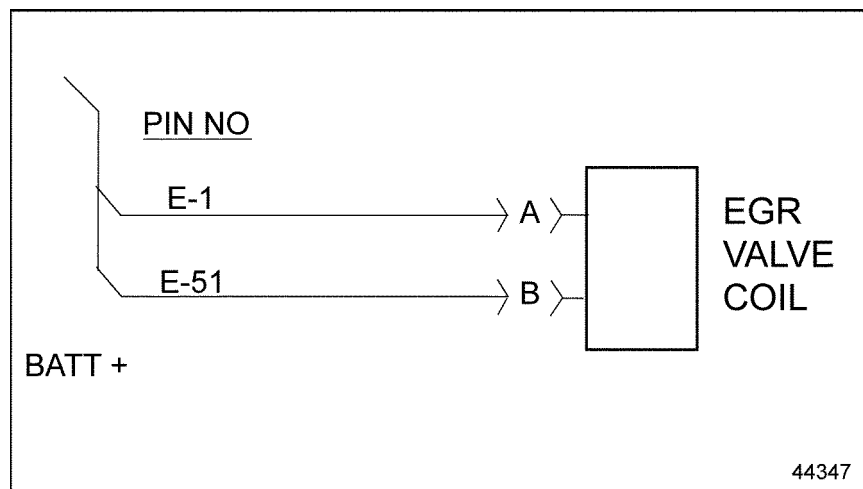

Figure 22-5 EGR Valve Coil Wiring
1. To check for a short circuit, disconnect harness connector at actuator control valve coil. Measure coil resistance between pins A and B. Allowed ranges are listed in Table 22-2. Also, see Figure 22-5.